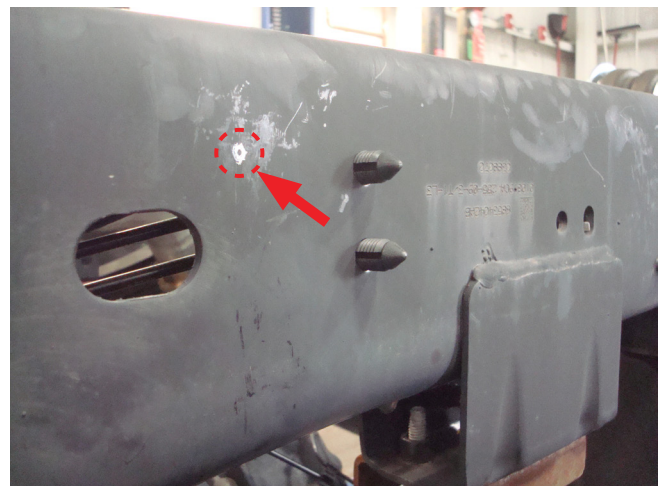

Fig. 13
- With the upper bracket in position, mark the forward upper hole location and remove the assemblies from the leaf springs. Center punch the mark and drill a 3/8" hole through the frame on both sides (Fig. 13).